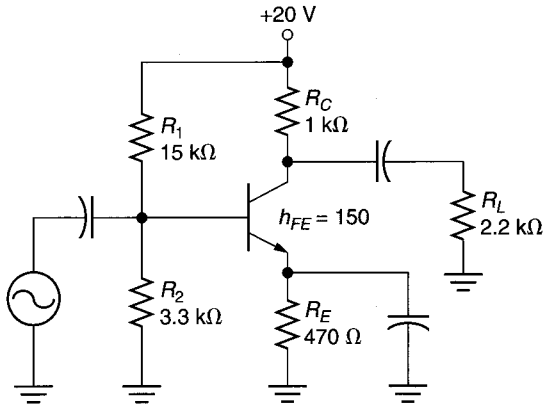

FIGURE 11.50
15. Calculate the maximum efficiency for the amplifier in Figure 11.50.